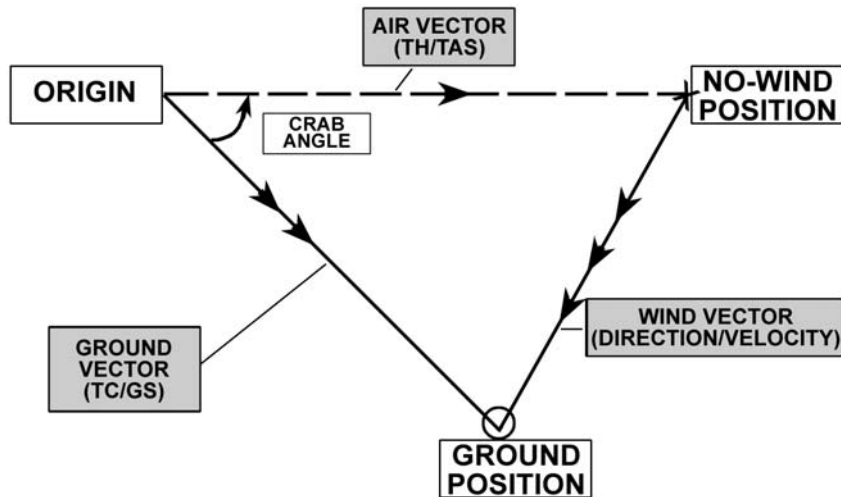

Figure 4.5-7
The resultant vector is the **GROUND VECTOR** that represents True Course or Track and Ground Speed. The result is the Wind Triangle (Figure 4.5-7).
The direction of the ground vector is the aircraft's intended or actual path over the ground, and the magnitude is the aircraft's groundspeed. The tail of the ground vector is our origin, and the head is the aircraft's current or predicted ground position. On the Wind Triangle, the angle formed by the Air and Ground vectors is called crab angle. (Figure 4.5-7)
The True Course Index is used to input the True Course (TC) in a preflight wind calculation, or Track (TK) in an in-flight wind calculation (Figure 4.5-9). Remember that either of these directions can represent the direction of the Ground Vector (Figure 4.5-7 (page 6)).